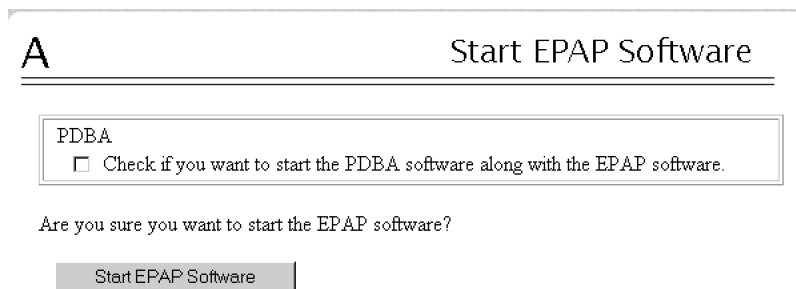

Figure 65: Start EPAP Software
7. From the **Start EPAP Software** screen, make sure that the check boxes are checked as shown in Figure 65: Start EPAP Software: